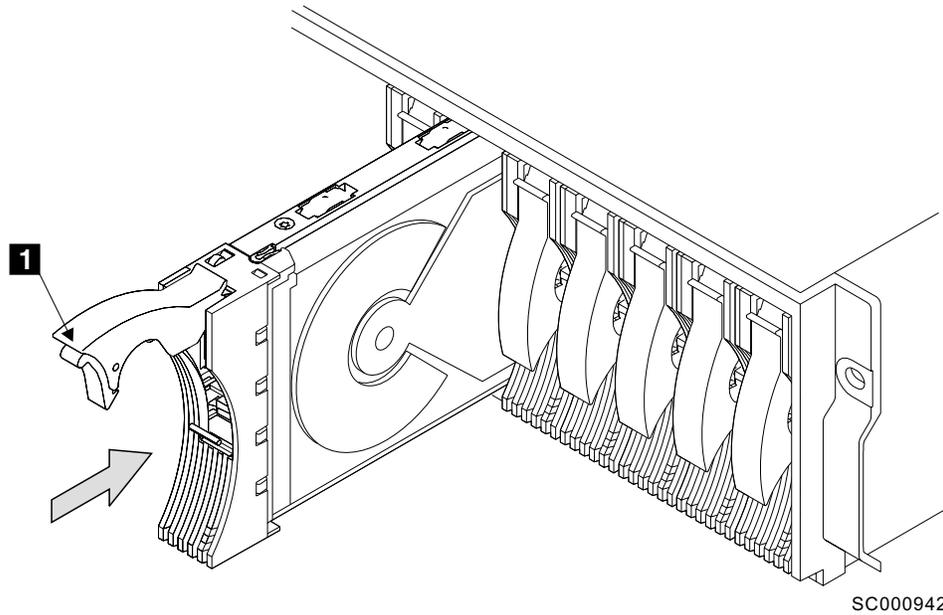

Figure 46. Inserting a disk drive module
4. Use one hand to support the base of the replacement module. Use the other hand to hold the handle **1**. See Figure 46. Insert the module, and push it into the slot.